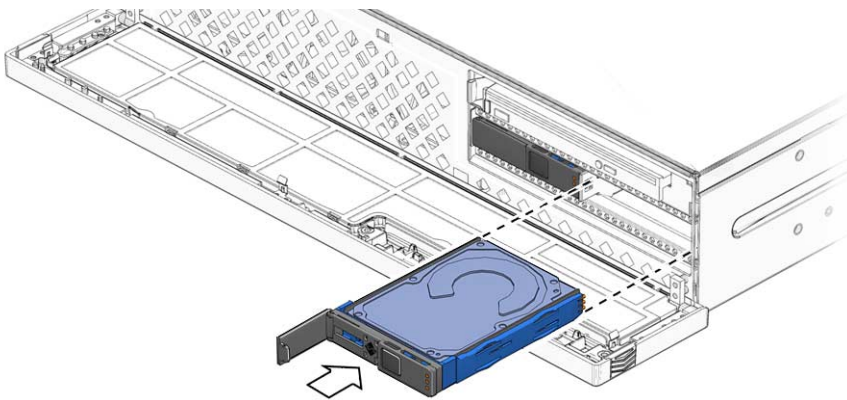

FIGURE 3-21 Installing the Hard Drive Into the Server
The hard drive is physically addressed according to the slot in which it is installed. See FIGURE 3-21. It is important to install a replacement drive in the same slot as the drive that was removed.
3. Slide the drive into the bay until it is fully seated (FIGURE 3-21).